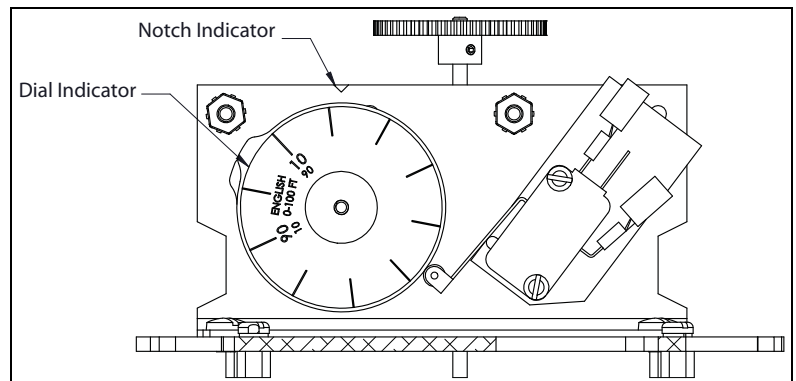

Figure 5-7: Dial and Notch Indicator
7. After adjusting the dwell, verify that the level that the limit switch activates did not change using the dial indicator (see Figure 5-7).
9. Rotate the 2910 FTT encoder shaft until the correct level reading (matching the gauge) is displayed by the dial indicator (see Figure 5-7).